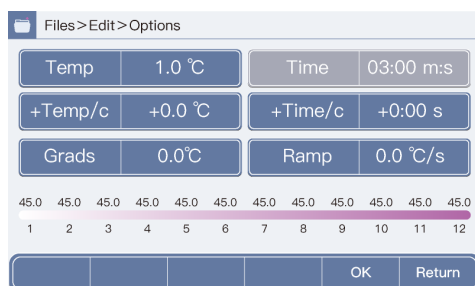

Fig 7. Optional Parameter Setting Screen
1. With a step selected in the Reaction Program Edit screen, click the <Option> button. Then, set the parameters of the steps (Figure 7).